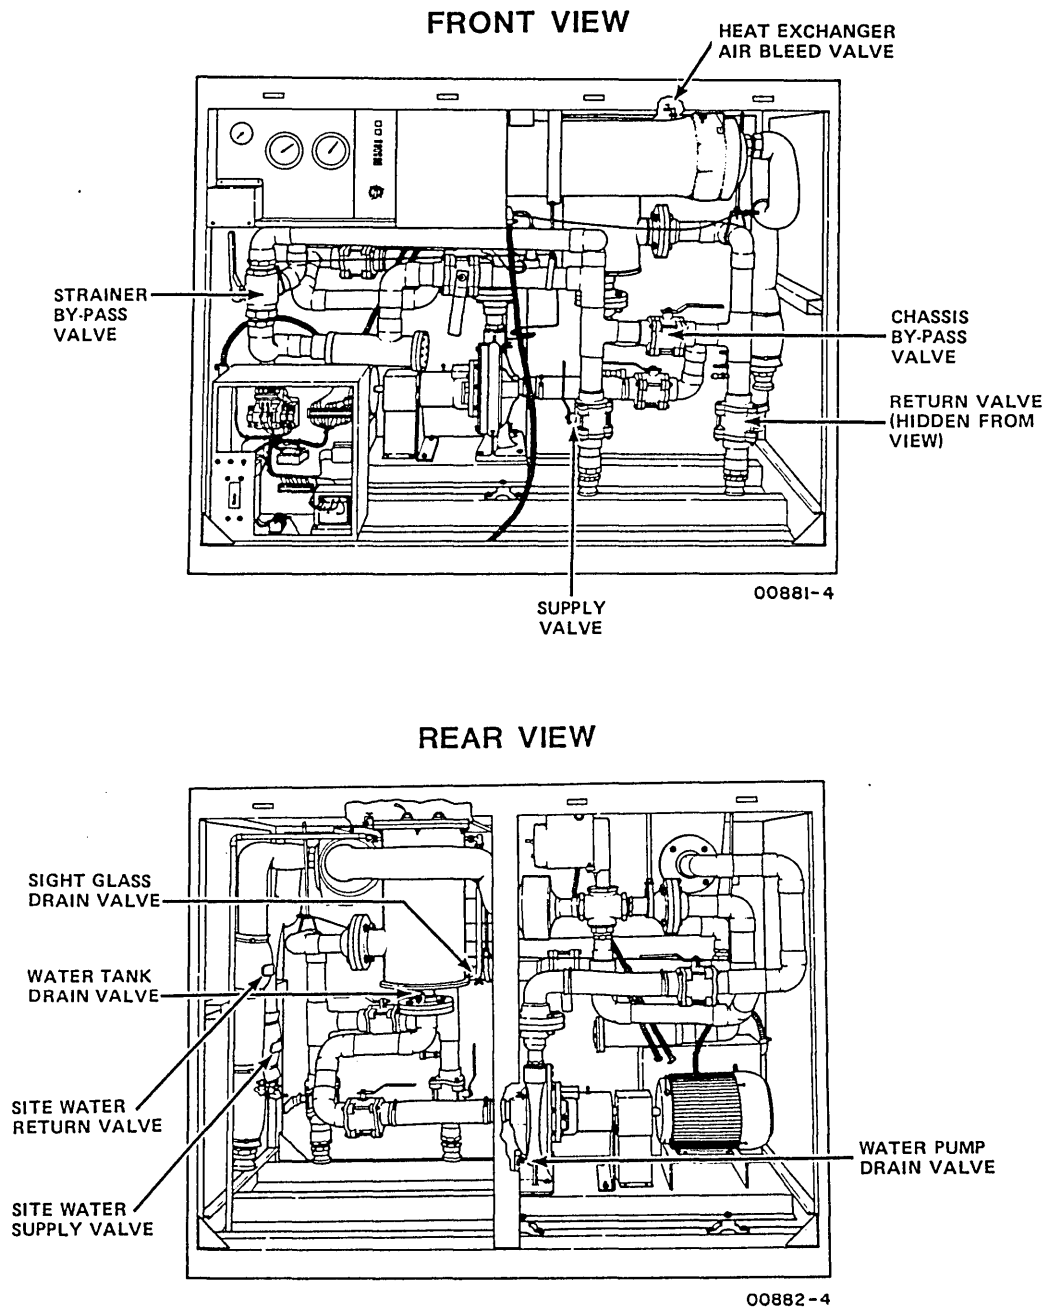

Figure 3-25. Valve Locations on 220-L/min (58-gal/min) Unit
- ___ 1. Open water cooling unit supply and return valves (figure 3-25) by turning them fully counterclockwise.